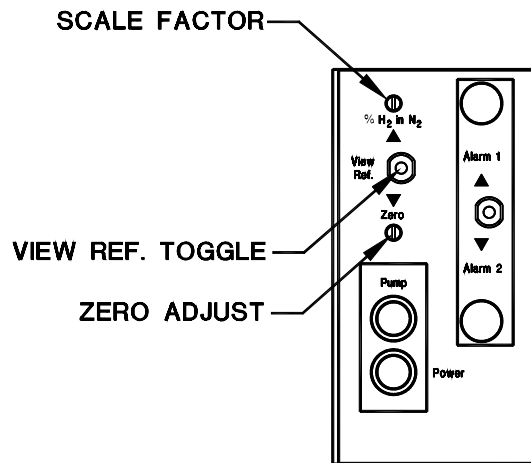

Figure 7: Gas Correction Factor Adjustment
- 2) Locate the View Ref. Toggle switch. See Figure 7.